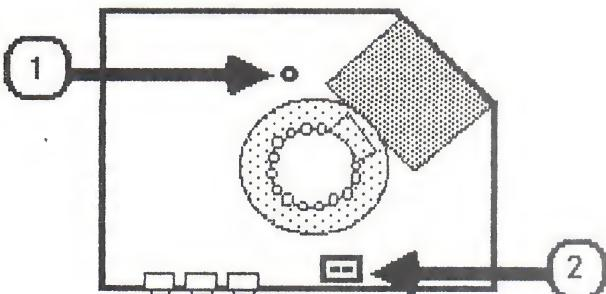

FIGURE 7
6. Disconnect the following connectors from the CRT socket board: (Figure 7.)
- a) CN16 (black) -- Figure 7, #1
- b) CN17 (blue and white) -- Figure 7, #2 (AppleColor Monitor 100 Rev. 0 only)